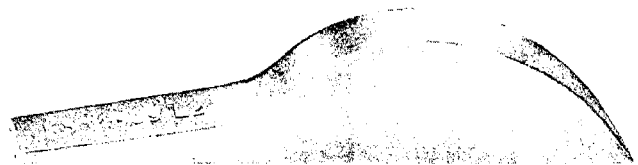

Fig. 12 — Guard Protector KS-14539
6.05 The KS-14539 guard protector, Fig. 12, is a red plastic hood designed to cover the heat coils and springs on C50 protected-type frames.